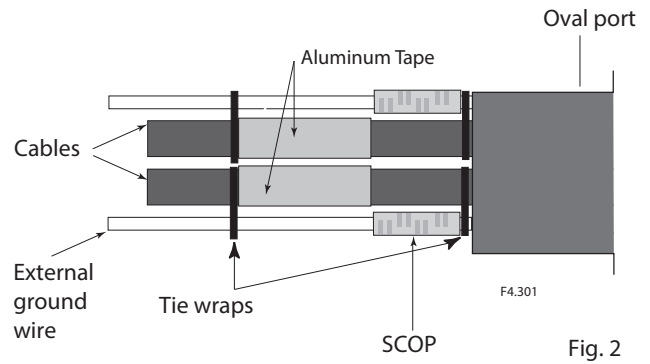

Fig. 2
2. Wrap the SCOP around the external ground wire, aligning the SCOP with the inside edge of the aluminum tape. Note orientation of SCOP as shown on release paper. (Fig. 2)
Important: Position the bond wires and tie wraps relative to the cables as shown in Figs. 2 and 3.